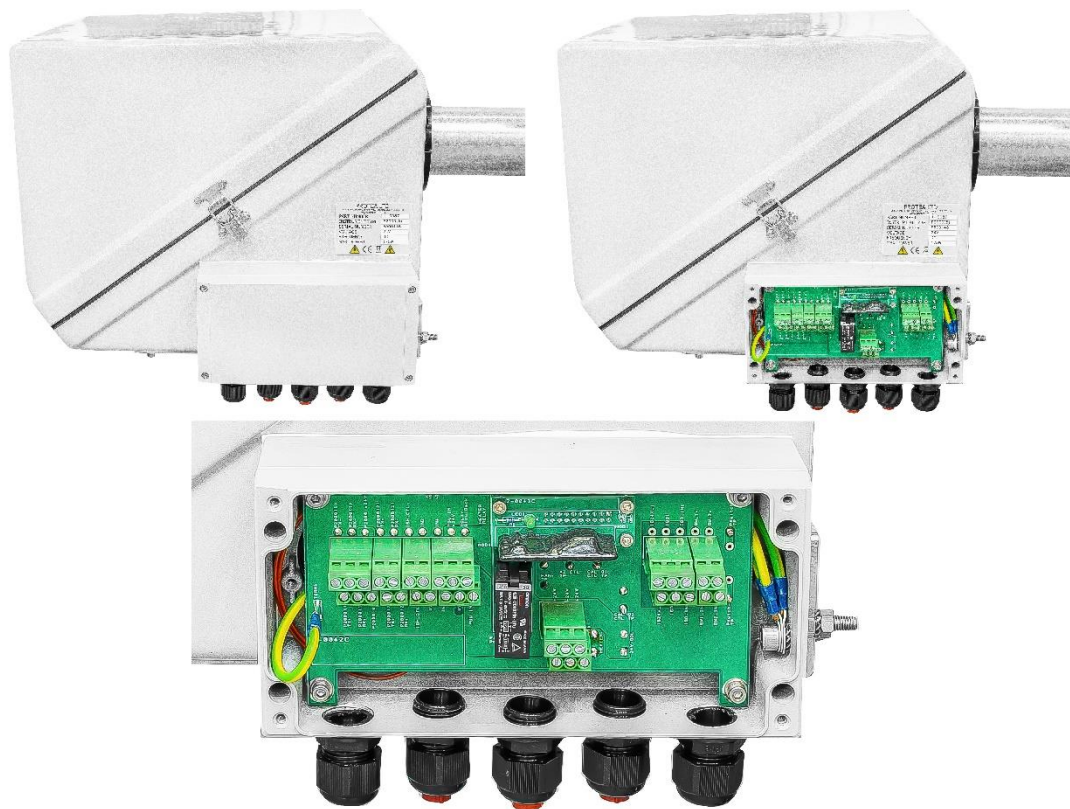

Figure 2-9 P2000 Junction Box
1. Place the Analyser Unit (AU) carefully on the ground or workbench, such that it is stable and horizontal. The retained foam base from the original packaging can be used when performing this operation to prevent damage to the analyser.
2. Remove and retain the four 5mm pozi-drive screws securing the cover of the Junction Box to access the Terminals on the side of the GRP cover (see Figure 2-9 below).